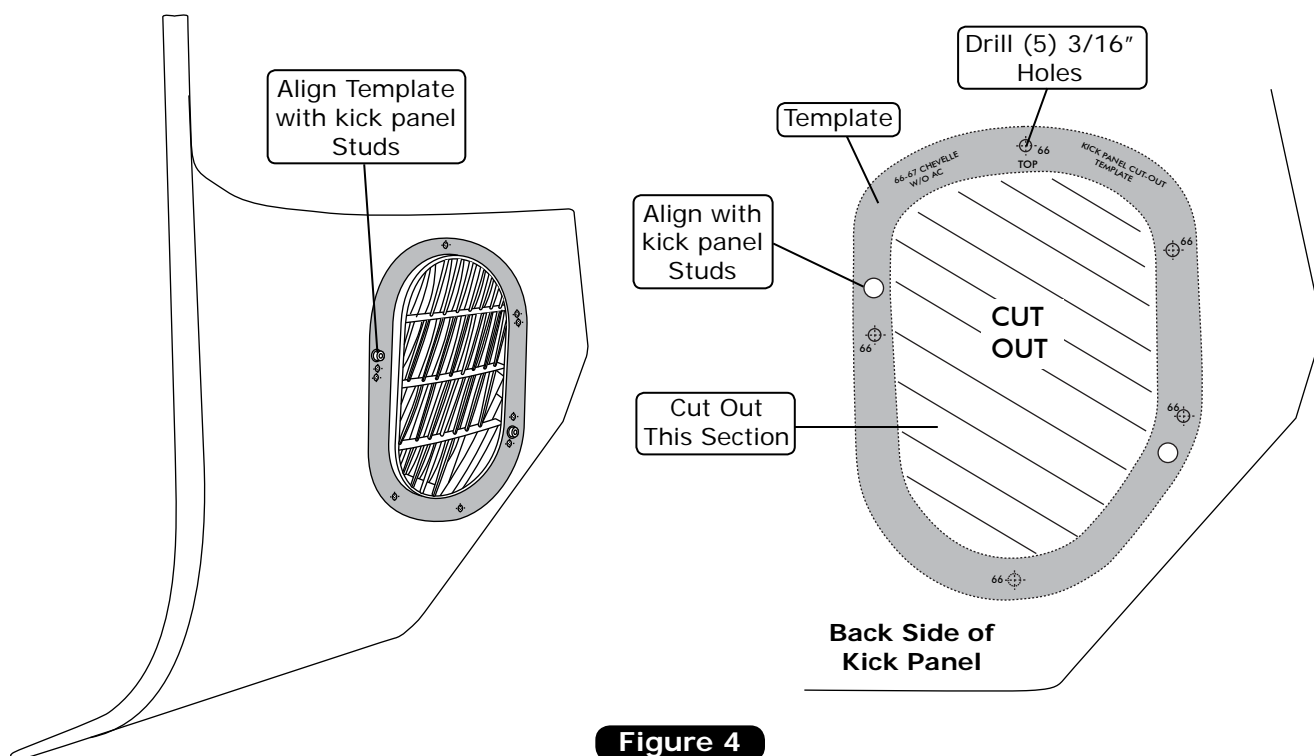

Figure 4
5. Align the template onto the back side of the kick panel as shown in Figure 4, below.
6. Cut out the kick panel grille as shown in Figure 4, below.
7. Drill (5) 3/16" holes into the Kick Panel (See Figure 4, below).